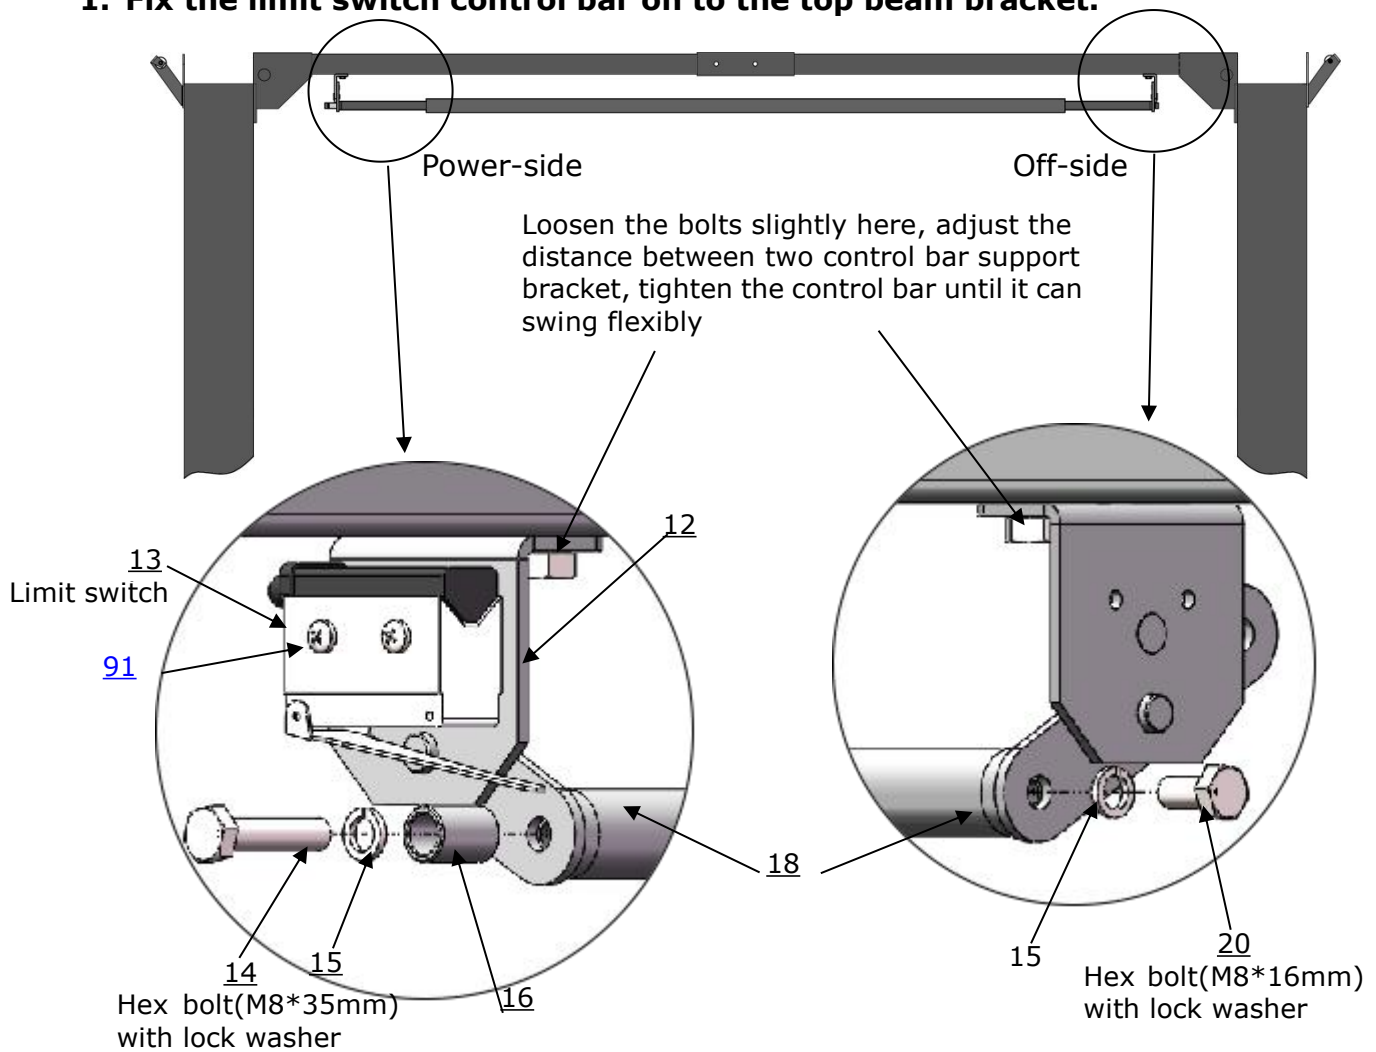

Fig.22
H. Install the limit switch control bar and limit switch (See Fig. 22).